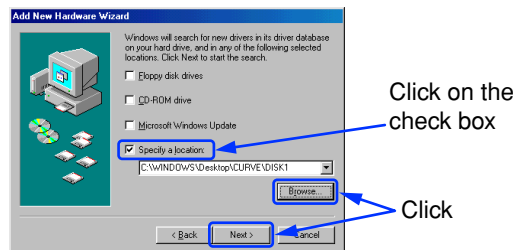

Fig. 2
- Click on the check box [Specify a location:] and click [Browse...]. Specify [Driver] folder of the supplied CD-ROM and click [Next >]. (Fig. 2)